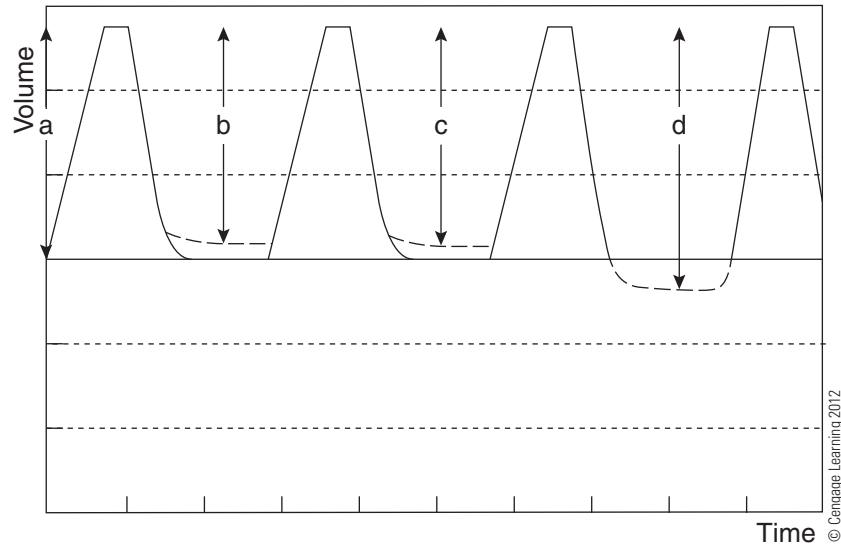
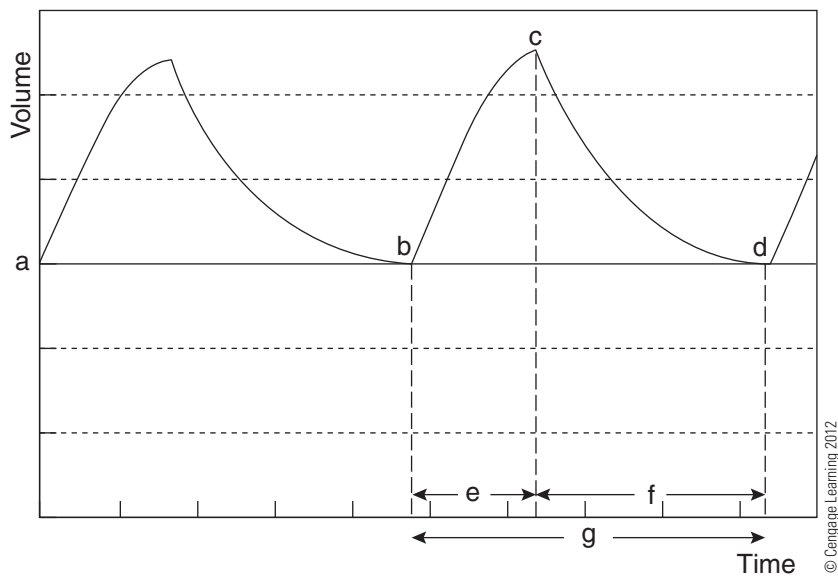

Figure 3-5 Air Trapping
Figure 3-6 Normal
- Figure 3-5** Air Trapping
(2) Volume-Time Waveforms - Pressure-Controlled
- Figure 3-6** Normal